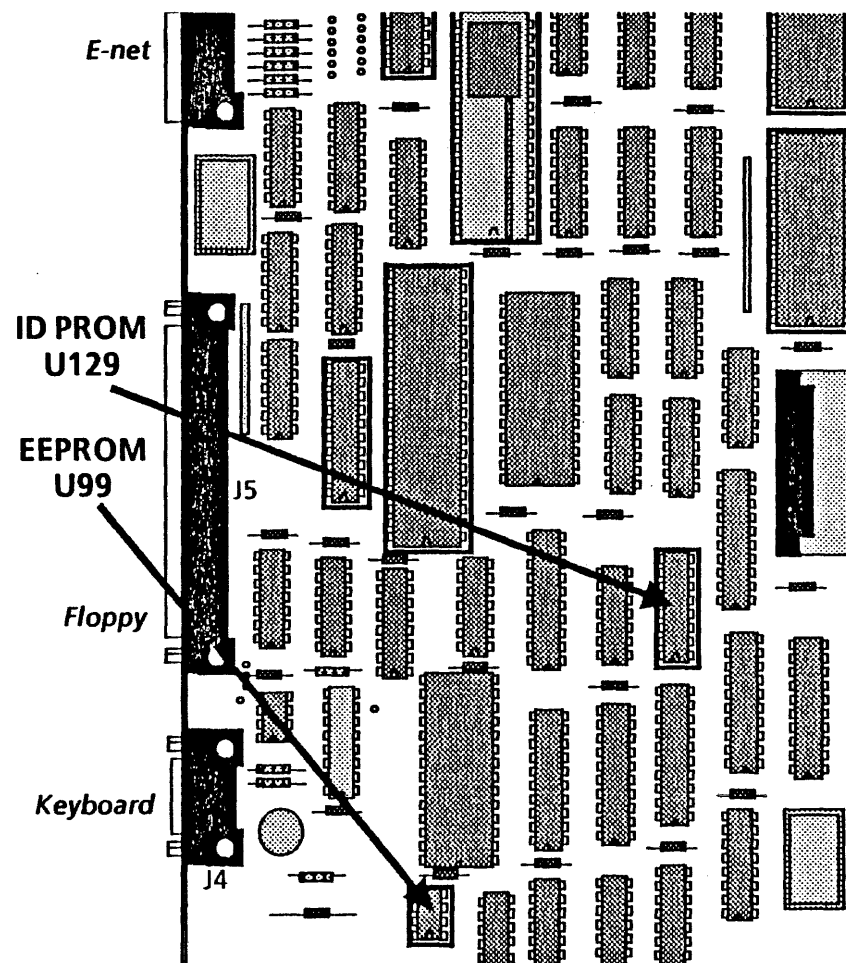
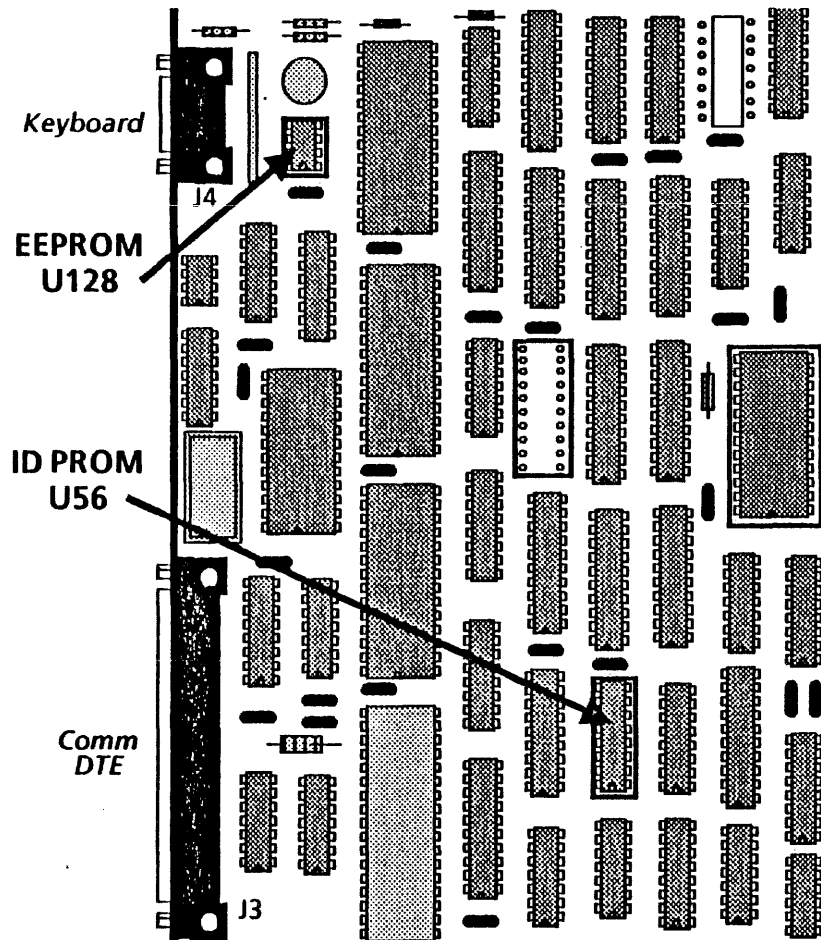

Figure 4-9 ID PROM and EEPROM Location (B1 Only)
Figure 4-9A ID PROM and EEPROM Location (B2 Only)
6. Locate the ID PROM and the EEPROM on the old IOP PWBA (Figure 4-9 for B1 IOP PWBA, Figure 4-9A for B2 IOP PWBA) and remove them for use with the new IOP PWBA.